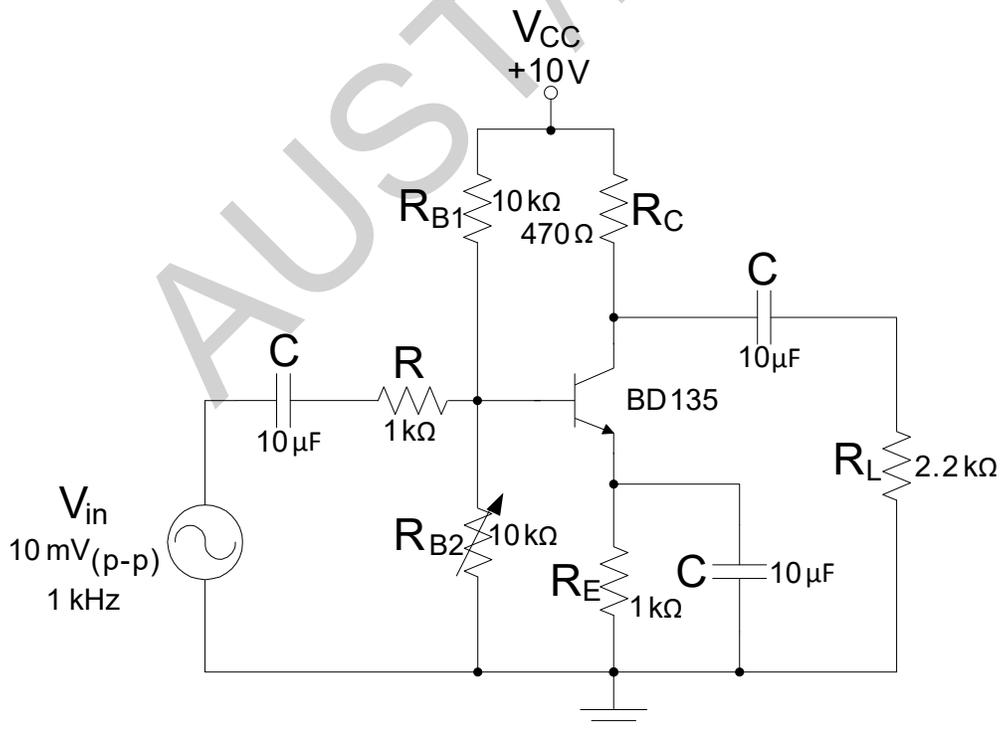

Fig: 1.1 Class A amplifier
- 1) Realize the circuit of figure 1.1
- 4) Using equations (2) and (3), calculate P_O (ac) and compare them.
- 6) Discuss the effect of using an inductor in place of R_C in the circuit of figure 1.1.